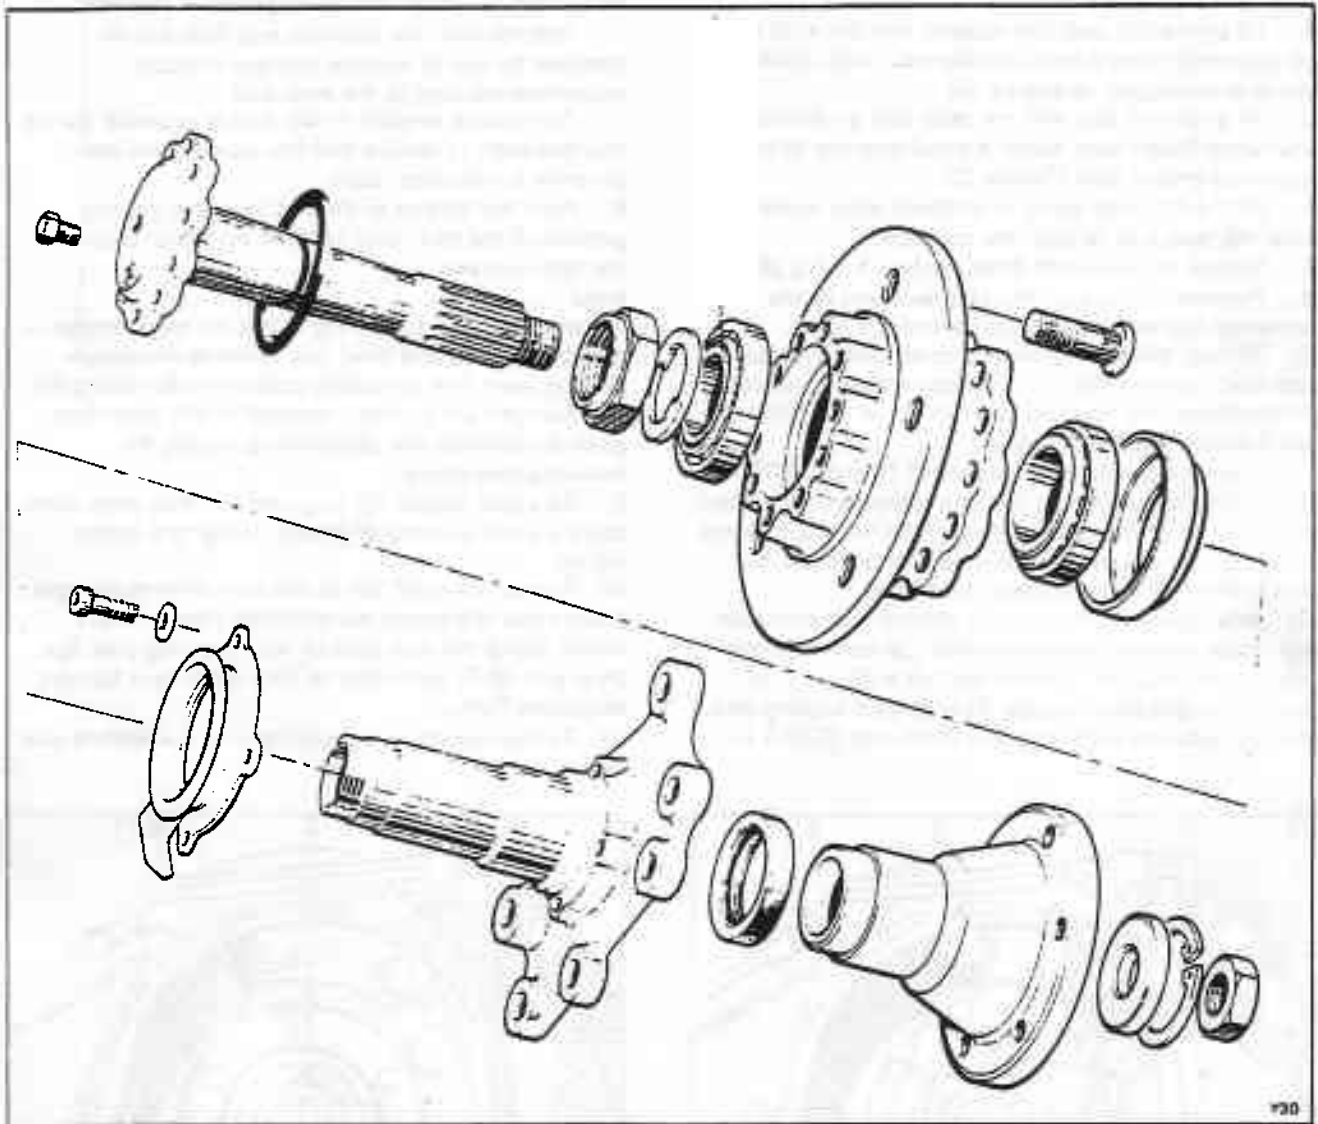

Fig. J4-3 Rear hub (cars fitted with constant velocity joints) Bentley Mulsanne Turbo
6. Remove the large nut and circlip that secures the hub coupling onto the hub drive-shaft. Remove the splined hub coupling from off the hub drive-shaft (see fig. J4-3), applicable to Bentley Mulsanne Turbo cars.
drive-shaft, secure by fitting a new circlip, (see fig. J4-3), applicable to Bentley Mulsanne Turbo cars.